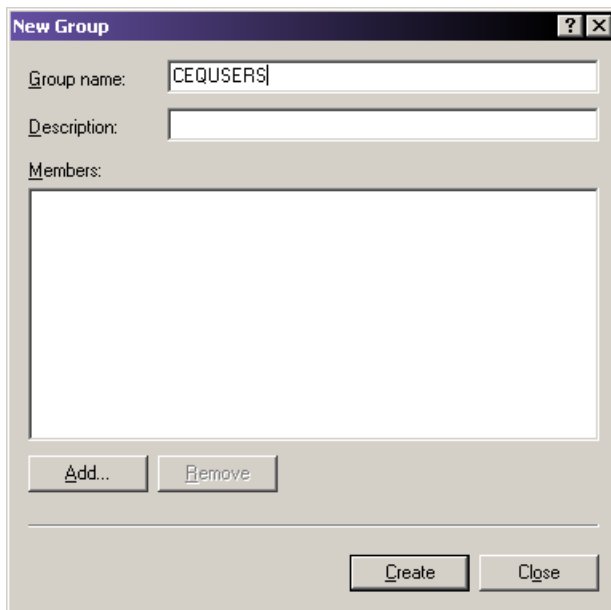

Figure 8.12 New Group Dialog Box
4. Right-click **Groups** and select **New Group**. The New Group dialog box opens (Figure 8.12).